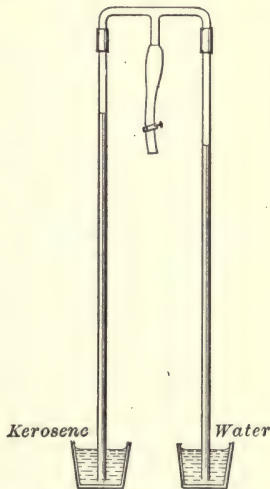

FIG. 95. — Specific gravity by balanced columns.
8. Two glass tubes are arranged vertically (Fig. 95) so that their lower ends dip into water and kerosene, respectively, while their upper ends are joined to a mouthpiece. When some of the air in the tubes is sucked out, the water rises 26 centimeters and the kerosene 33 centimeters. Find the specific gravity of the kerosene. (This is a common way of getting specific gravity.)